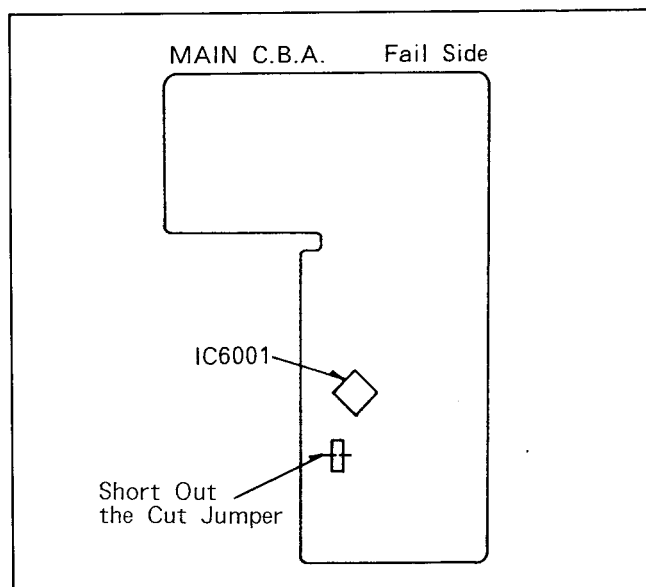
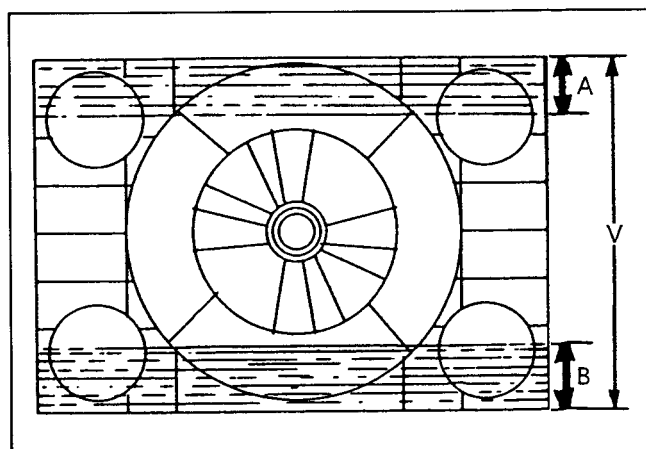

Fig. E4
Fig. E5
1. Short out the cut jumper wire as shown in Fig.E4.
2. Record the colour bar in SP(LP) mode for a few minutes and playback the just recorded portion.
4. Adjust VR2011(SP)(VR2006(LP)) until noise bar on the monitor screen is minimized.(Detail specifications are shown in Fig.E5)
4. Adjust VR2019(SP)(VR2018(LP)) until noise bar on the monitor screen is minimized. (Detail specifications are shown in Fig.E5)